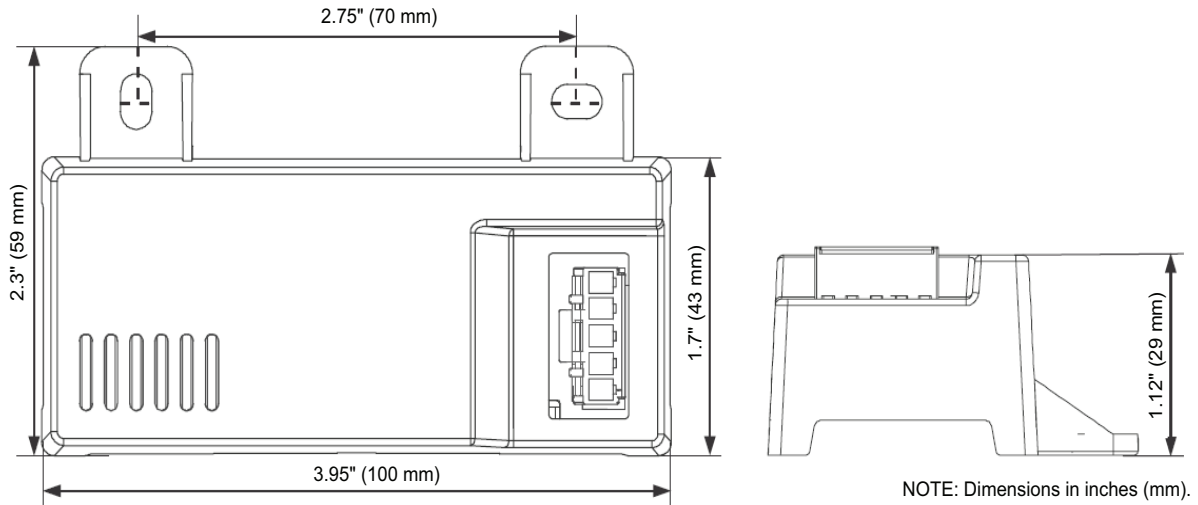
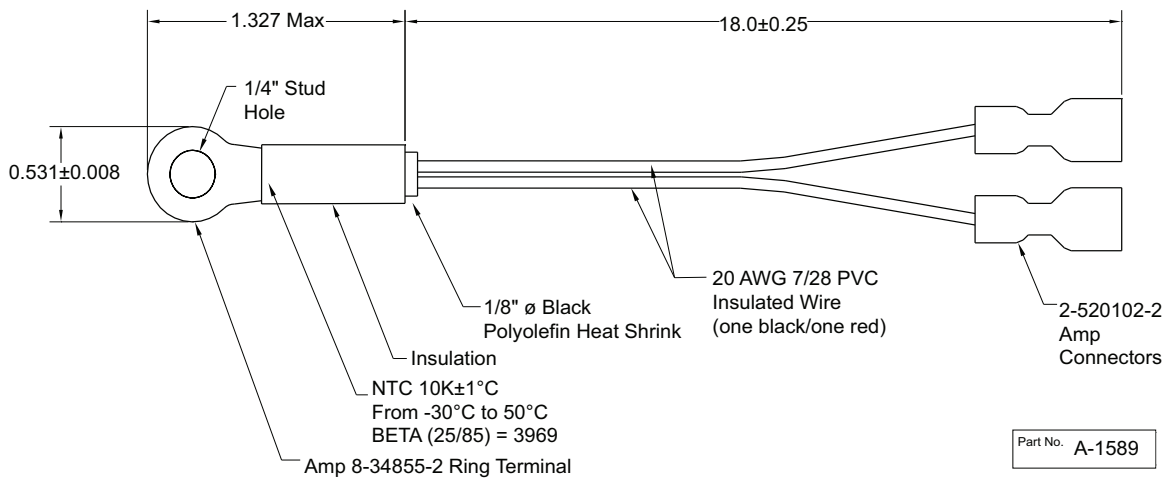
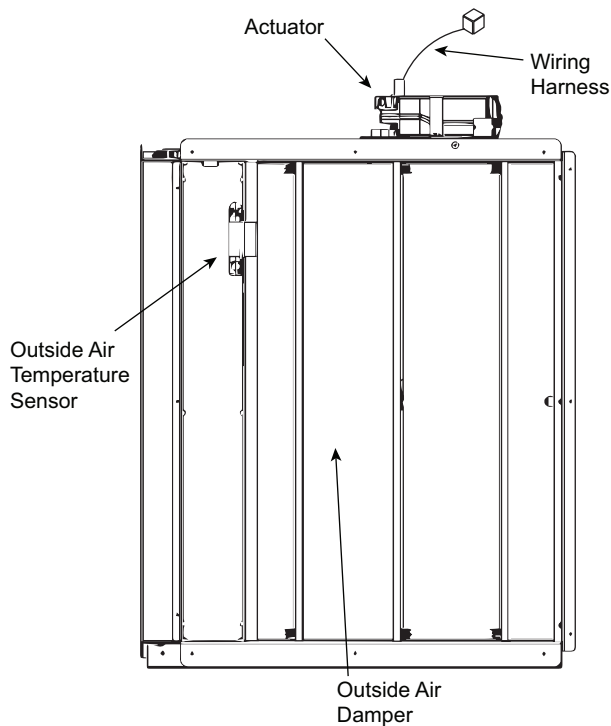

Fig. 60 — 1196582 Dimensional, Connection and Switching Information
Fig. 61 — 1193547 Dry Bulb and Mixed Air Sensor Wiring
Fig. 62 — EconomizerONE Component Locations (CRECOMZR108A00 Shown)
When using the 1196582 enthalpy sensor (see Fig. 60) for outside air changeover, the existing 1193547 dry bulb sensor (see Fig. 61) must be removed. The enthalpy sensor will be mounted in the same location as the dry bulb sensor (see Fig. 62). When the enthalpy sensor's OA (Outside Air) temperature, enthalpy, and dew point are below their respective setpoints, the outside air can be used for free cooling. When any of these are above the setpoint, free cooling will not be available. Enthalpy setpoints are configurable and create an enthalpy boundary according to the user's input. For additional details, see Fig. 63-64 and Table 26.
The optional enthalpy control sensor (P/N: 1196582) communicates with the POL224 economizer controller using the 5-wire harness, 1201876. The 1196582 sensor can be used as a single outside air enthalpy, a differential return enthalpy, or a differential return temperature sensor. Refer to the base unit control wiring diagrams found earlier in this book to wire the 1196582 enthalpy sensor for each option. Use Fig. 60 and Table 28 on page 47 to locate the wiring terminals for each enthalpy control sensor.
Economizers are shipped standard with an 1193547 outside air dry bulb sensor (see Fig. 61). System default setting (high temp limit) is 63°F (17°C) and has a range of 48°F to 80°F (9°C to 27°C). Sensor is factory installed on economizer.
If installing the optional 1196582 enthalpy sensor, the 1193547 dry bulb outside air sensor must first be removed. Wire sensor to harness 1201876 and the (5) wires from the harness to the EconomizerONE harness in the return air chamber. Harness 1201876 has a 5-pin plug that connects directly to the 1196582 enthalpy sensor. Refer to the base unit control wiring diagrams earlier in this book for wiring connections. Refer to Fig. 60 and Table 28.